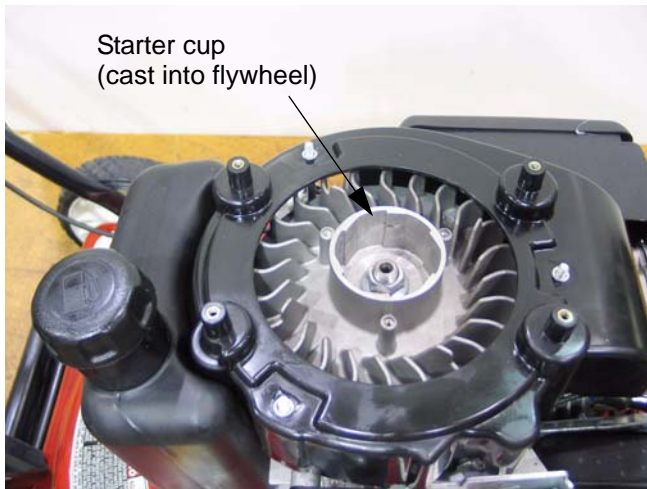

Figure 6.7
- 6.7. Inspect the inside of the starter cup portion of the flywheel casting. See Figure 6.7.